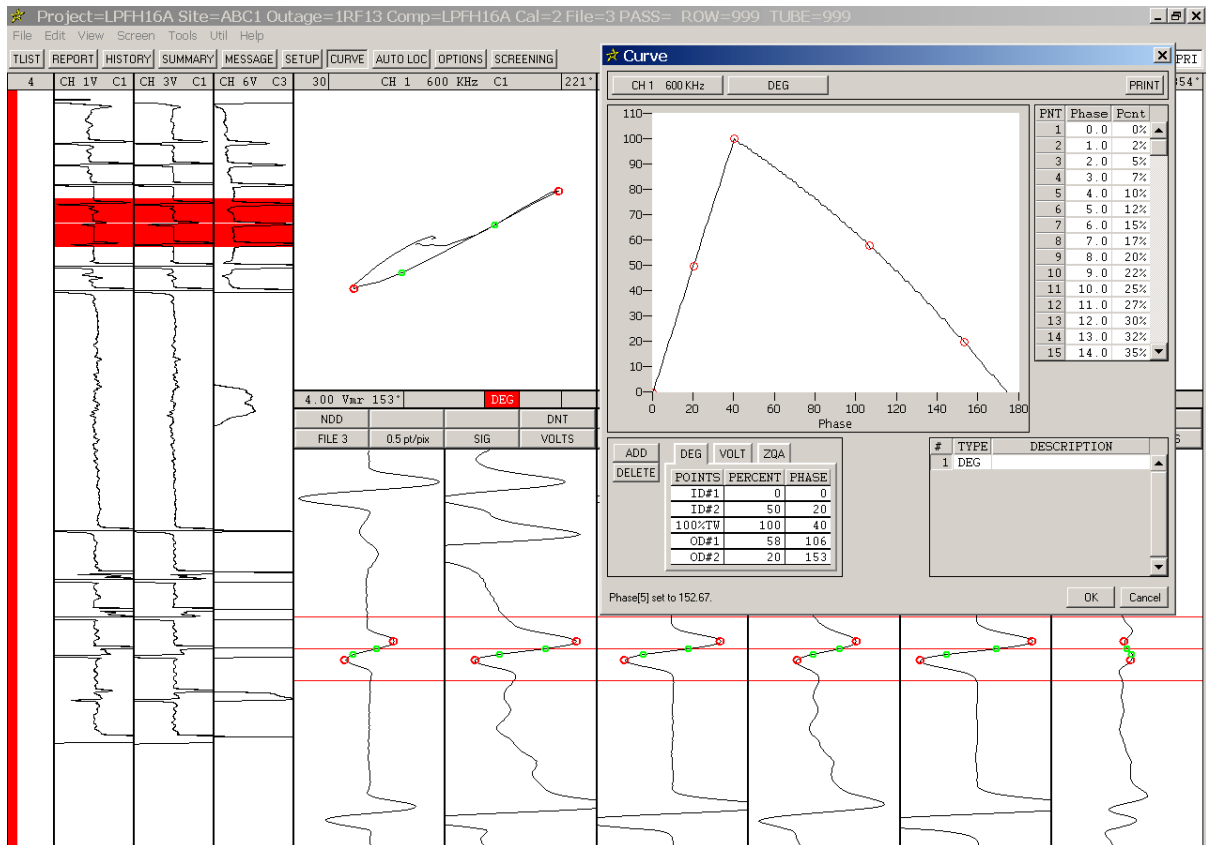

Figure 1-21. Analysis Screen - Curve Dialog – Completing a Phase Curve
- STEP 33:** Click in the *Phase* field for *OD#2* on the *DEG* table. The phase measurement ($\sim 153^\circ$) of the *4-20% FBH* signal for *CH 1* is automatically entered in the field as shown in Figure 1-21.